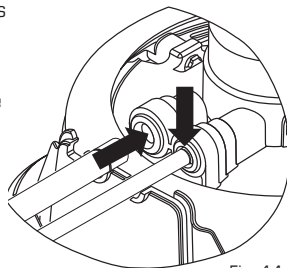

Fig. 14
5. Insert each tube into the proper locations on the Bracket until you meet the marks or the marks disappear (Fig. 14).